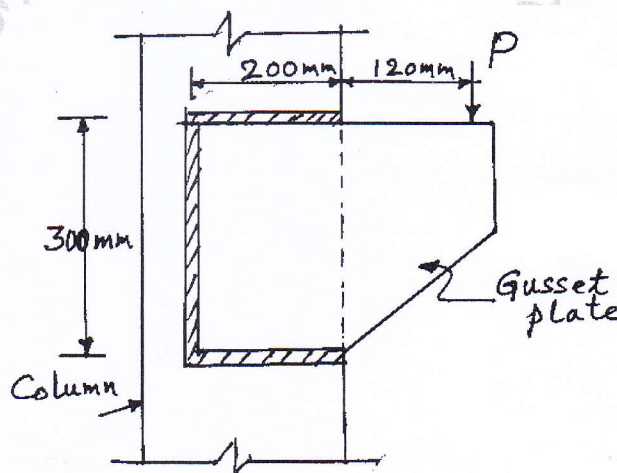

Fig.Q3(b)
b. For the welded bracket shown in Fig.Q3(b), determine the greatest safe load that can be applied at a distance of 120 mm from flanges of column. The size of weld is 6 mm. Assume shop weld.